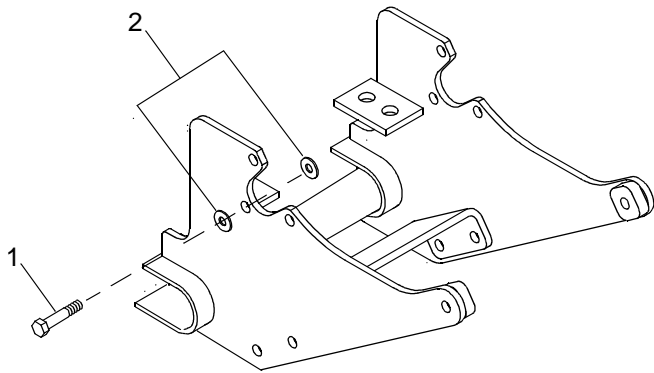

Figure 5 Flat Washer Installation on Rear Support
**NOTE:** Install flat washers between rear support and pivot pin and on outside at head of cap screw as shown in Figure 5.